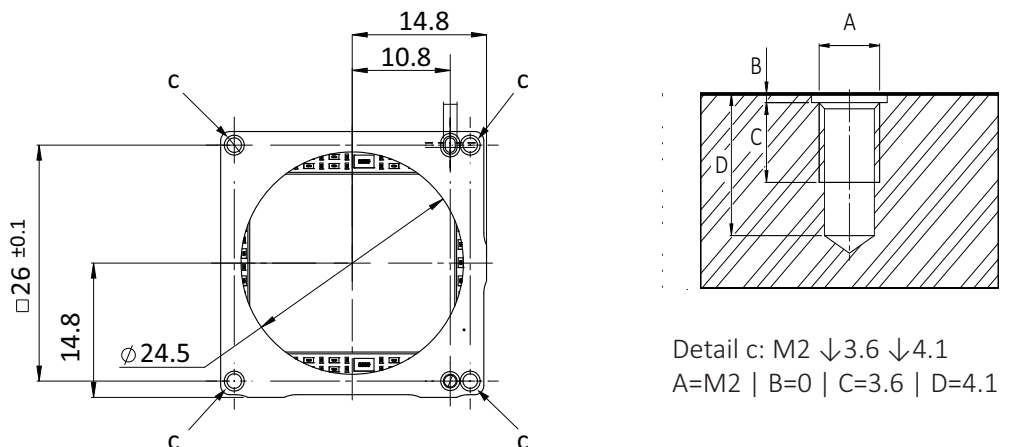

Figure 63: Mounting threads Alvium G1 BL Frame
As shown in Figure 63, mount the camera to the base using suitable M2 screws for the 4 mounting threads: At 0.4 Nm maximum torque for a thread engagement (C) of 3.6 mm between screws and mounting threads.